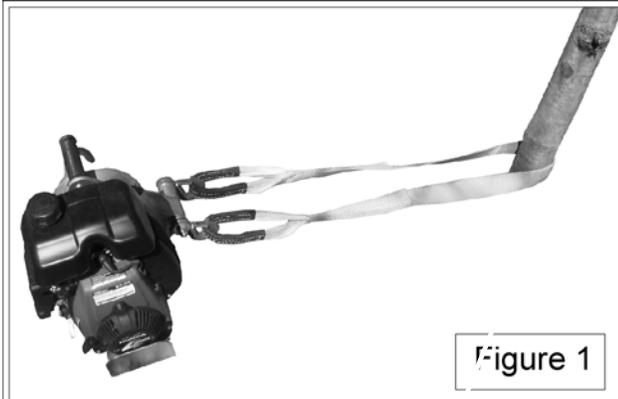

Figure 1
Go around the anchor point with the sling. Insert each end of the sling in one of the safety hooks located on the winch (figure 1).
**⚠ CAUTION** AVOID INSTALLING THE SLING ON SHARP EDGES THAT MIGHT DAMAGE IT. WHETHER YOU ARE USING A POST, A TREE OR A STUMP, ALWAYS INSTALL THE SLING NEAR THE ANCHOR'S BASE (FIGURE 1).
- 1) Push the safety hooks in the rectangular openings of the hitch plate (figure 1 next page). The rubber plate must be under the winch;
- 2) Run the rope **OVER THE ROPE KEEPER** and the front pulley and under the drum (figure 1);